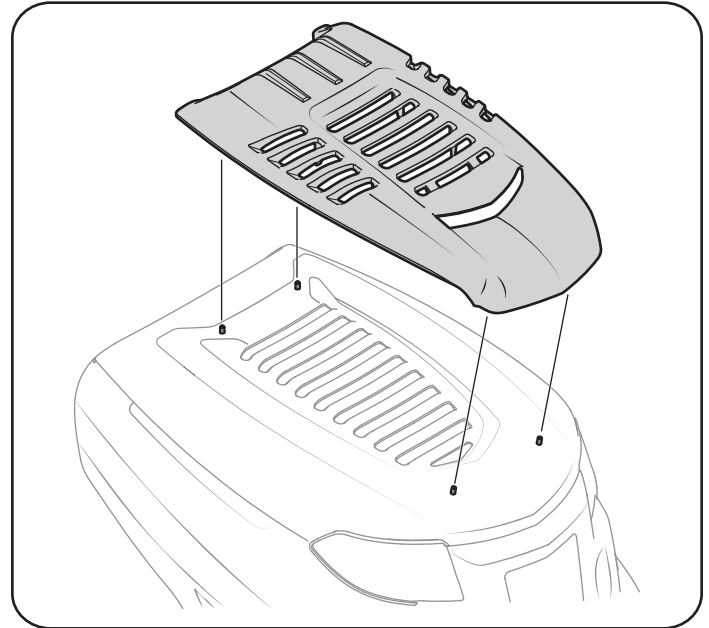

Figure 12
4. Snap the hood scoop into place using the hood as your guide. See Figure 12.